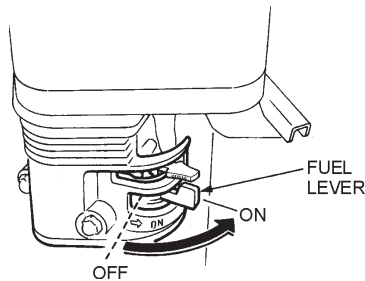

Figure 17. Fuel Valve Lever
2. Connect to water source (as applicable) see item 7 on page 48 (Water System Assembly), and test for adequate flood water [ 4 to 5 gallons per minute (15 to 19 LT/min)], and/or misting water [steady geometric aerosol spray at 40 psi].
3. Place the **fuel valve lever** (Figure 17) to the "ON" position.
- Place the fuel valve lever (Figure 17) to the “OFF” position.